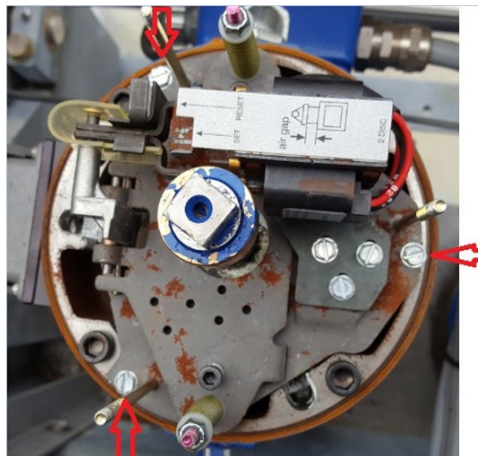
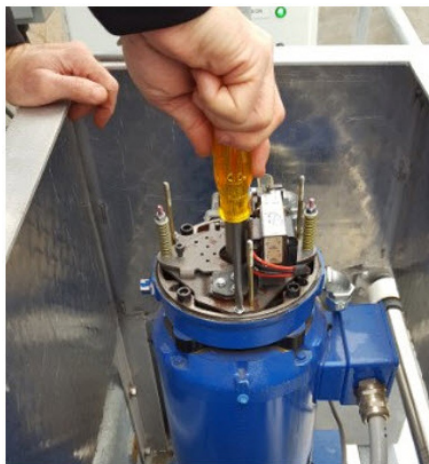

Figure 4-6: Support Plate Screws
Figure 4-12: Reinstalling Support Plate
8. Once the housing is removed, you can visually inspect for surface rust on the support plate. Then remove the 3 support plate screws shown in Figure 4-6 to get to the brake disc pack.
14. Reinstall the support plate with the 3 screws that were removed in Figure 4-6 and tighten to 50-55 in-lbs. See Figure 4-12.